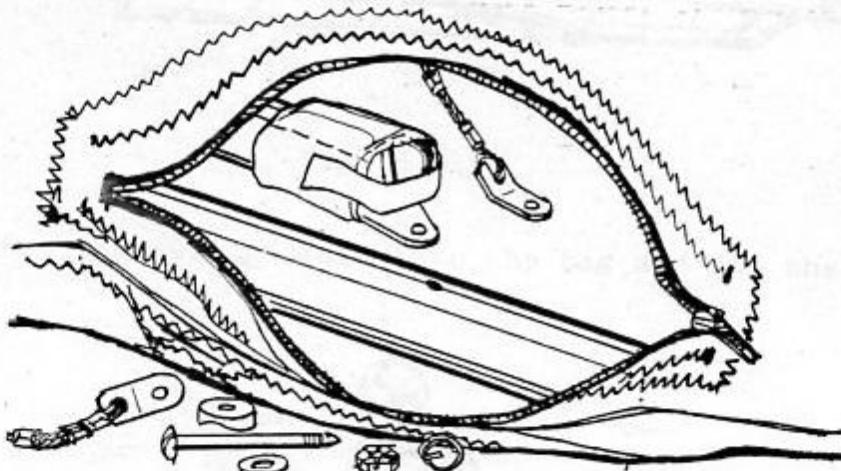

Fig. 5.3.1.
6. Dismount the crossbar / leading edge junctions and the top and bottom side wires junctions (Fig. 5.3.1).